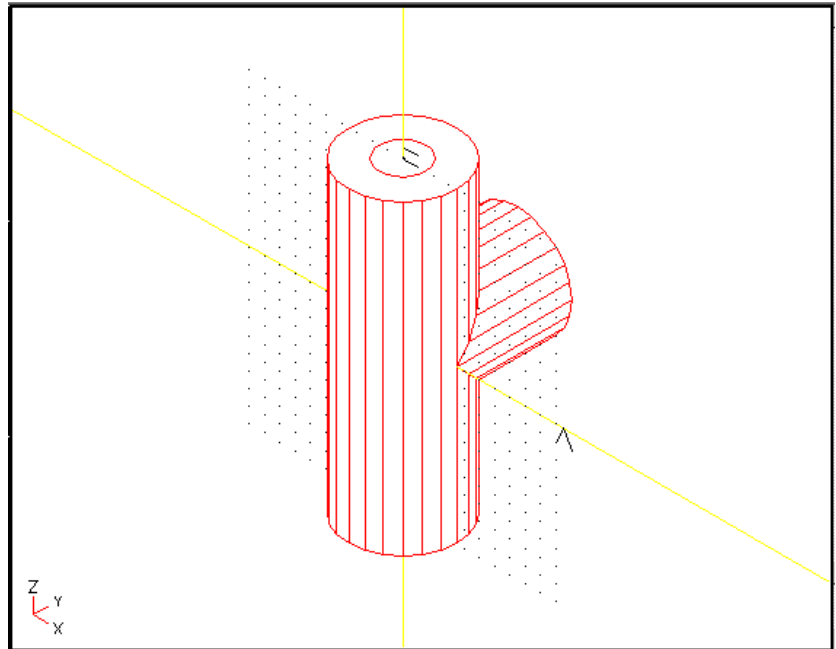

Figure 11 United Outer Cylinders
- 4 Click **Apply**. The united, outer cylinders are displayed in the project window, as in Figure 11.